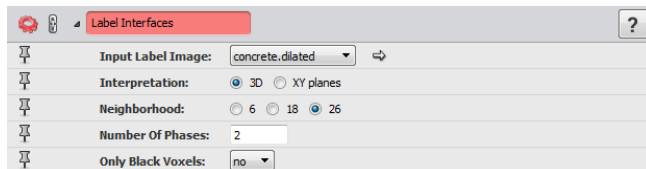

Figure 12.20: Default Parameter Settings of the *Label Interfaces* Module
8. Finally, contact points can be identified using a *Label Interfaces*. Attach a *Label Interfaces* module to the *convert.dilated* data and set the parameters as shown in Figure 12.20.